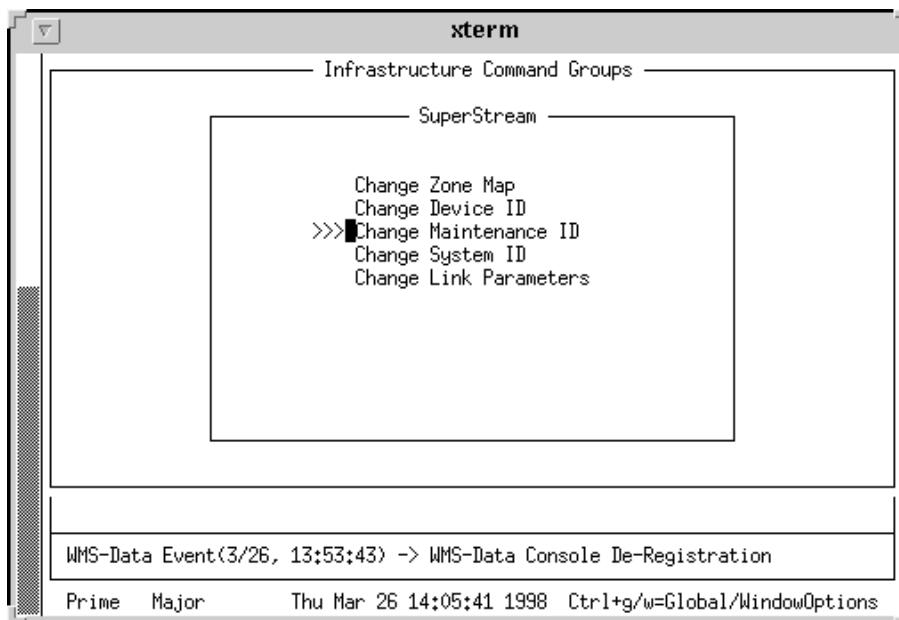

Figure 4-6: SuperStream Menu—Change Maintenance ID
1. From the SuperStream menu, use the <tab> to position the cursor to the left of the listing Change Maintenance ID and press: <Return> (see Figure 4-6).